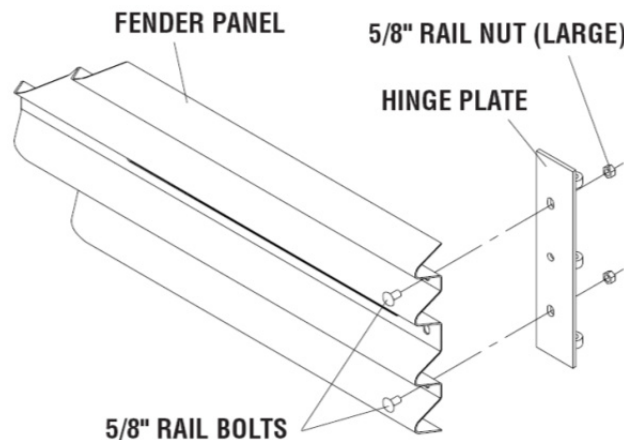

Figure 61
Attach Hinge Plate on each Fender Panel using two (2) 5/8" rail bolts and two (2) 5/8" rail nuts, using top and bottom holes only, leaving the center-hole open as shown in Figure 61.